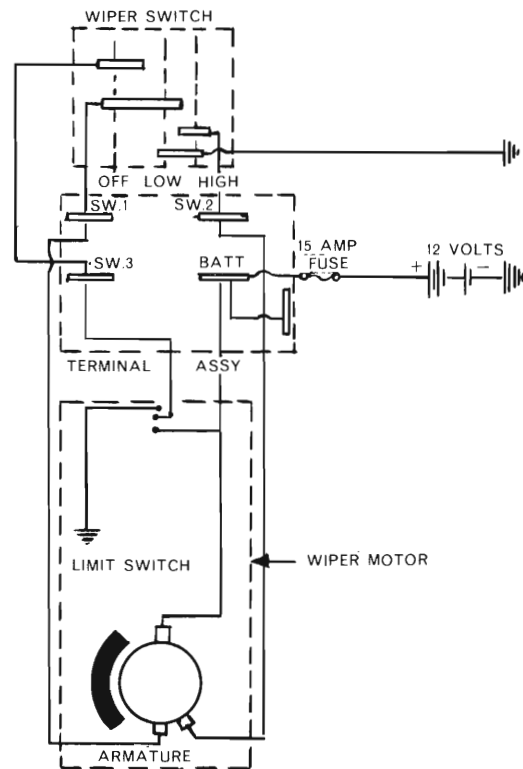

Fig. 6. Wiring Diagram—Lucas.
(1) Connect a positive lead from a test battery to the terminal marked "batt" on motor (blue lead).
(2) Connect a negative lead from test battery to the terminal marked "SW1" (dk. green lead). The motor should then run at low speed.
(3) Connect a negative lead from test battery to the terminal marked "SW2" (yellow lead). The motor should then run at high speed.
(4) For wiring diagram refer (Fig. 6).